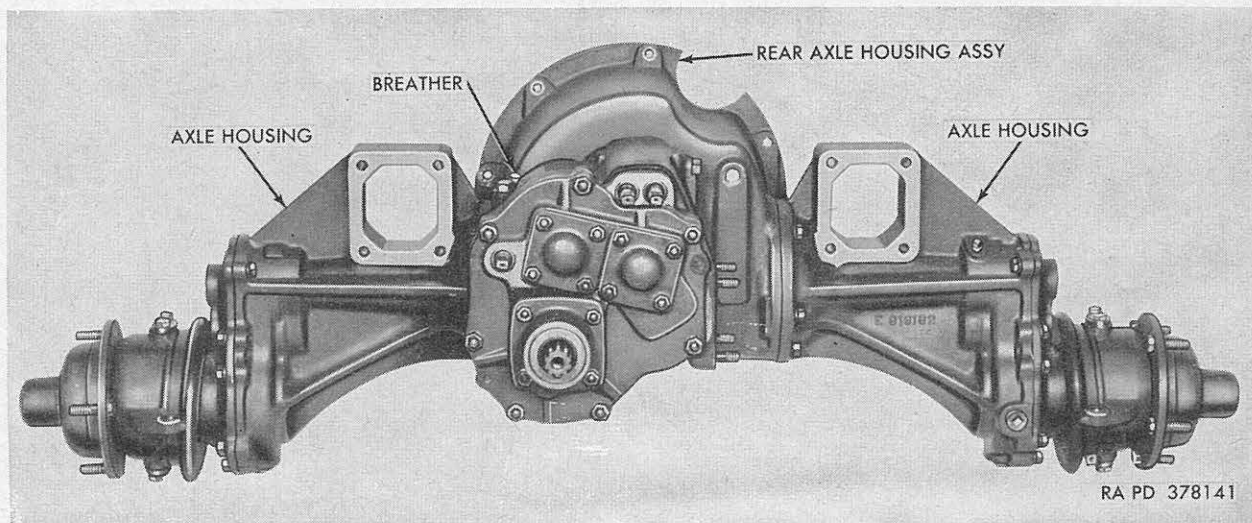

Figure 70. Rear axle transmission assembly.
a. *Description.* The rear axle and transmission assembly (fig. 70) is bolted directly between the center tubular frame members, connecting it to the front axle, and the rear tubular frame members, supporting the rear end of the platform. The assembly consists primarily of three assemblies; the rear axle housing assembly, and two axle housings with attached parts. The rear axle housing assembly contains the transmission